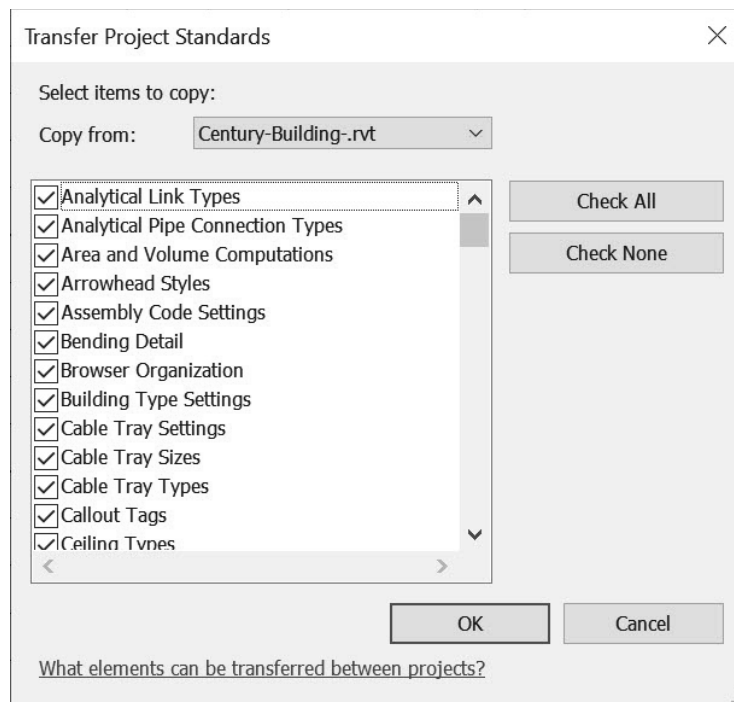

Figure 1–18
5. Select the items you want to copy into the current project, as shown in Figure 1–18, then click **OK**.